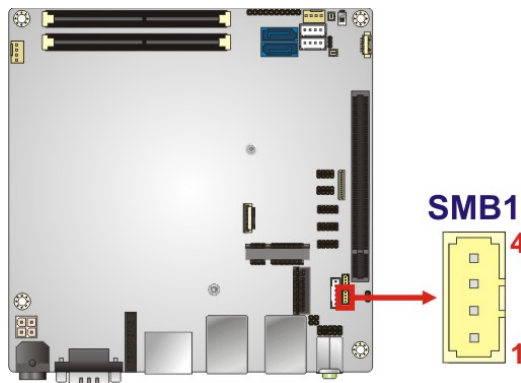

Figure 3-24: SMBus Connector Location
- CN Location:** See **Figure 3-24**